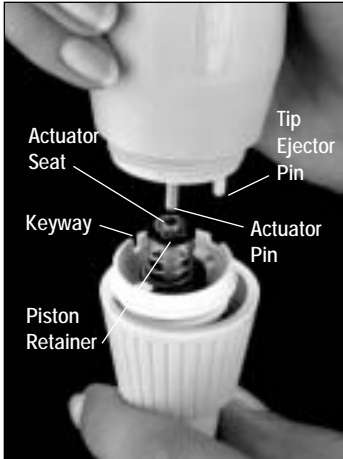

FIGURE 8-3 ATTACHING THE LIQUID END
1. Refer to Figure 8-3. Hold the shaft retaining nut and support the liquid end upright with its end on a smooth soft surface such as a paper towel.